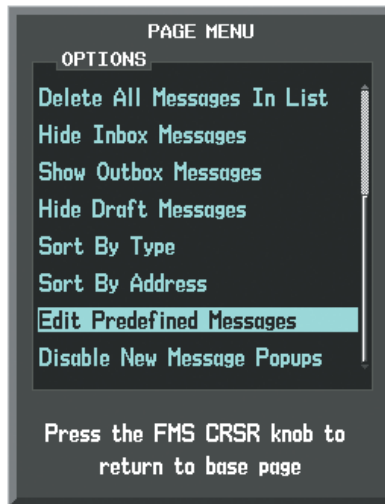

Figure 8-109 Creating/Editing Predefined Messages
- 2) Turn either **FMS** Knob to select 'Edit Predefined Messages' as shown in Figure 8-109.